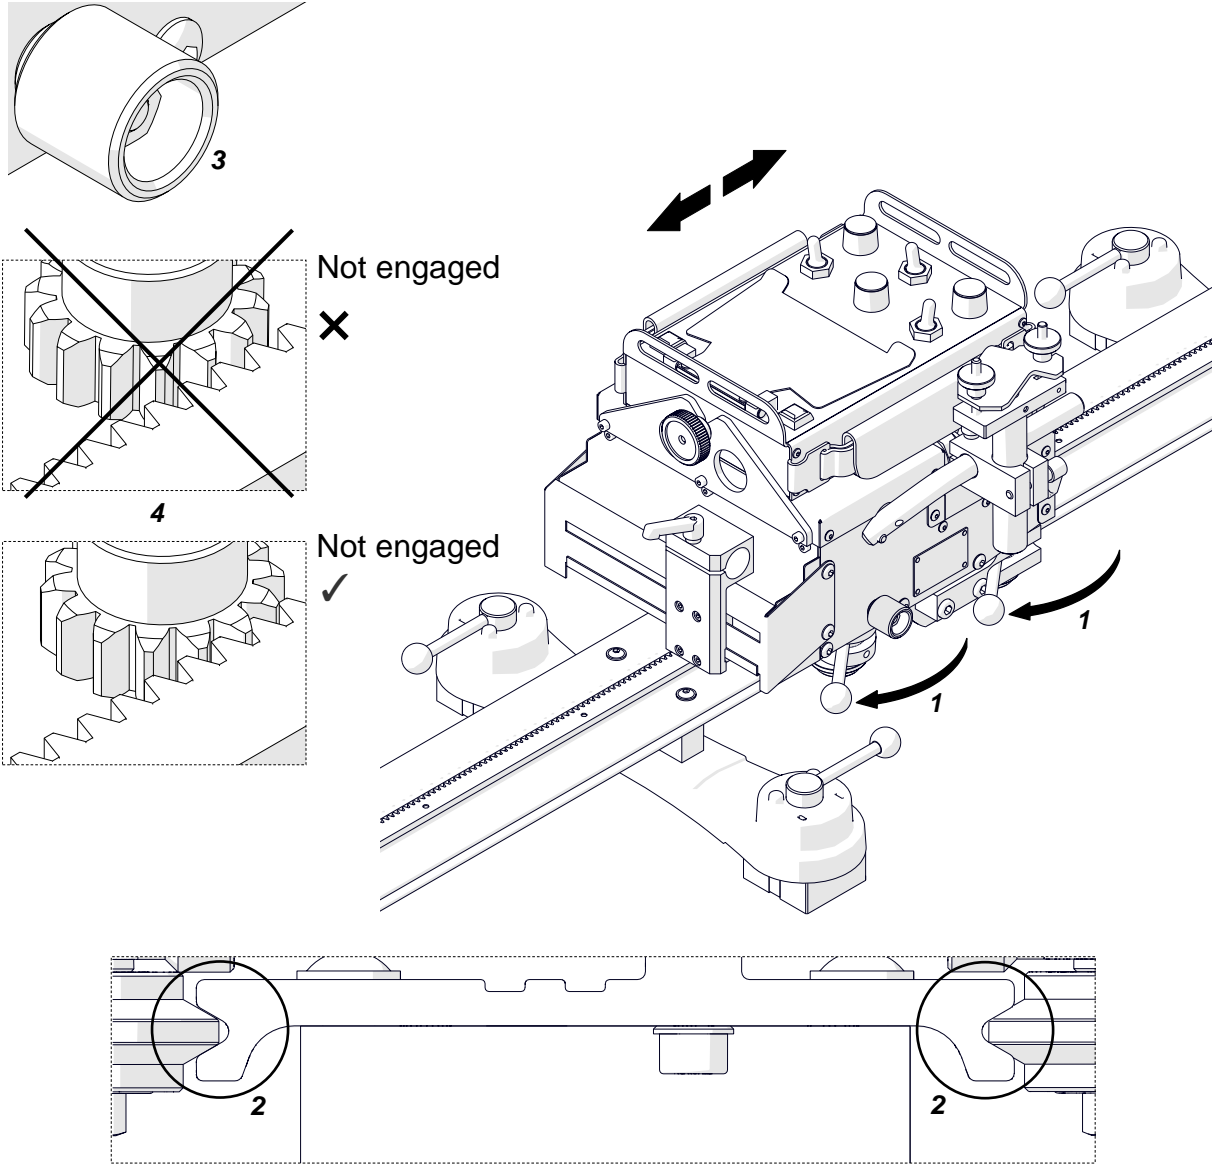

Fig. 7. Engaging the carriage with the track
Set the levers to ON (1, Fig. 7) to put the rollers into the grooves (2). Tighten the knob (3) to engage the gear of the carriage with the rack of the rail (4). Keep a small backlash between the gear and the rack. Move the carriage slightly back and forth to make sure that there is a backlash.